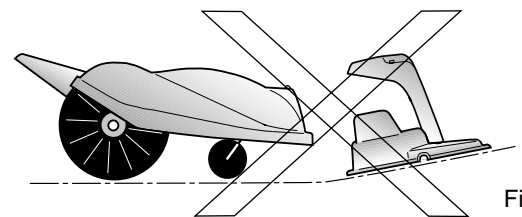

Fig.2
- The charging station must be level in relation to the mower (fig. 2).